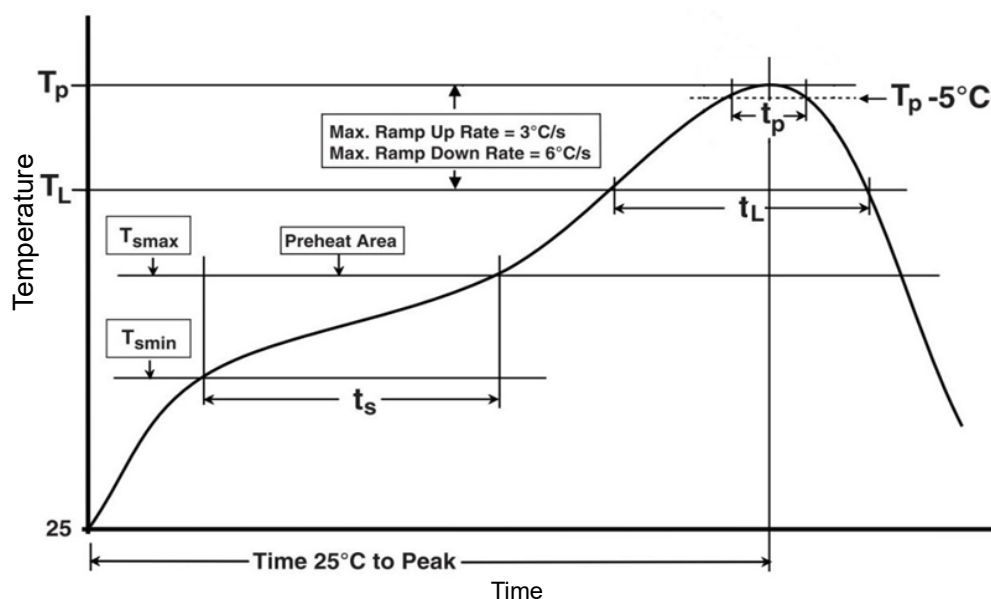

Fig.1 Temperature Profile (Pb Free Solder)
- Reflow Profile : Refer to Fig.1